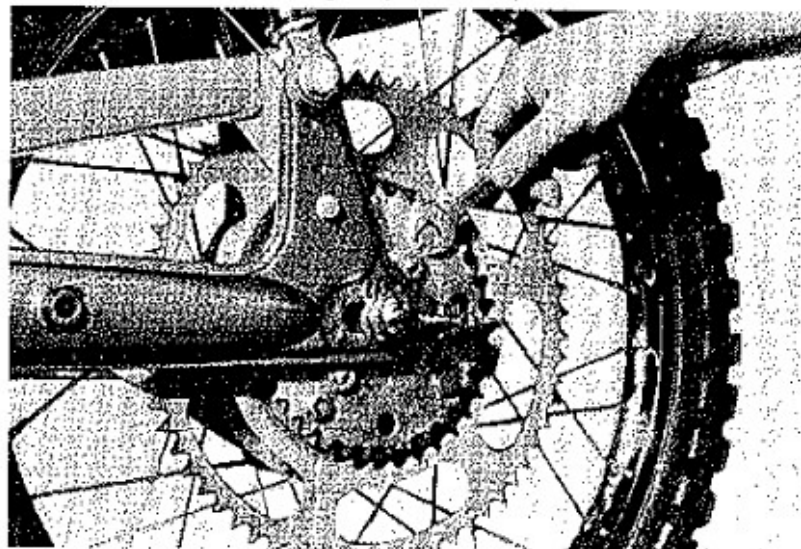

Fig. 41
6. Screw, these bosses with the screw bolts taken off ordinarily. (Fig. 41)